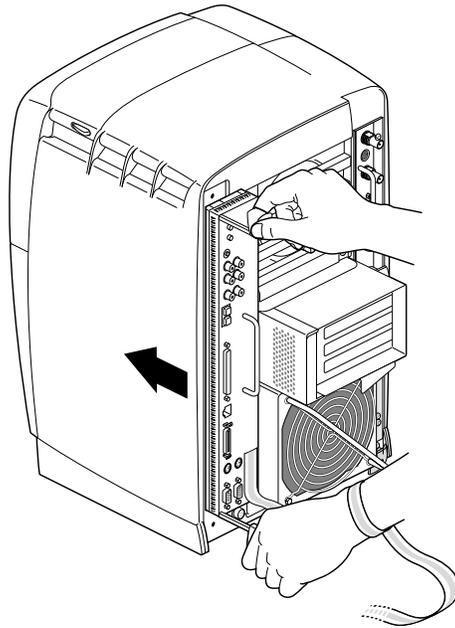

Figure 2-24 Locking the System Module to the Frontplane
3. Push both sliding handles simultaneously to connect the system module to the workstation, as shown in Figure 2-24. Then push firmly on the sliding handles to completely lock the system module to the workstation.